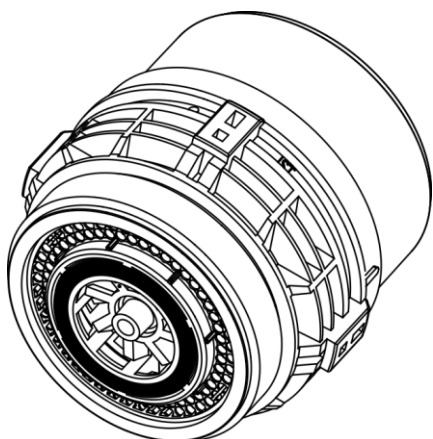

Figure 5. Gasket IST
2. Check that the O-ring on the underside of the meter is correctly seated and correct if necessary (Fig. 5).